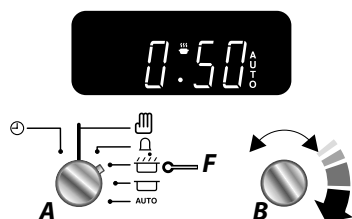

Fig. 2.27
2. Turn the **Timer (A)** knob to the **Stop Time (G)** setting (**Fig. 2.27**). The display will show the current time of day plus the 'cook time' you just set.